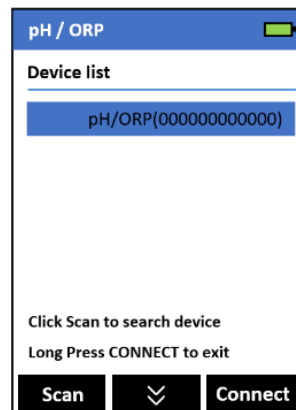

Figure 31
6. Discoverable devices will begin to populate on the display with their name and MAC-Address (Figure 31).
From the **Setting** screen (Figure 31), the user can set the **Power off time** and **Screen off time** in seconds.